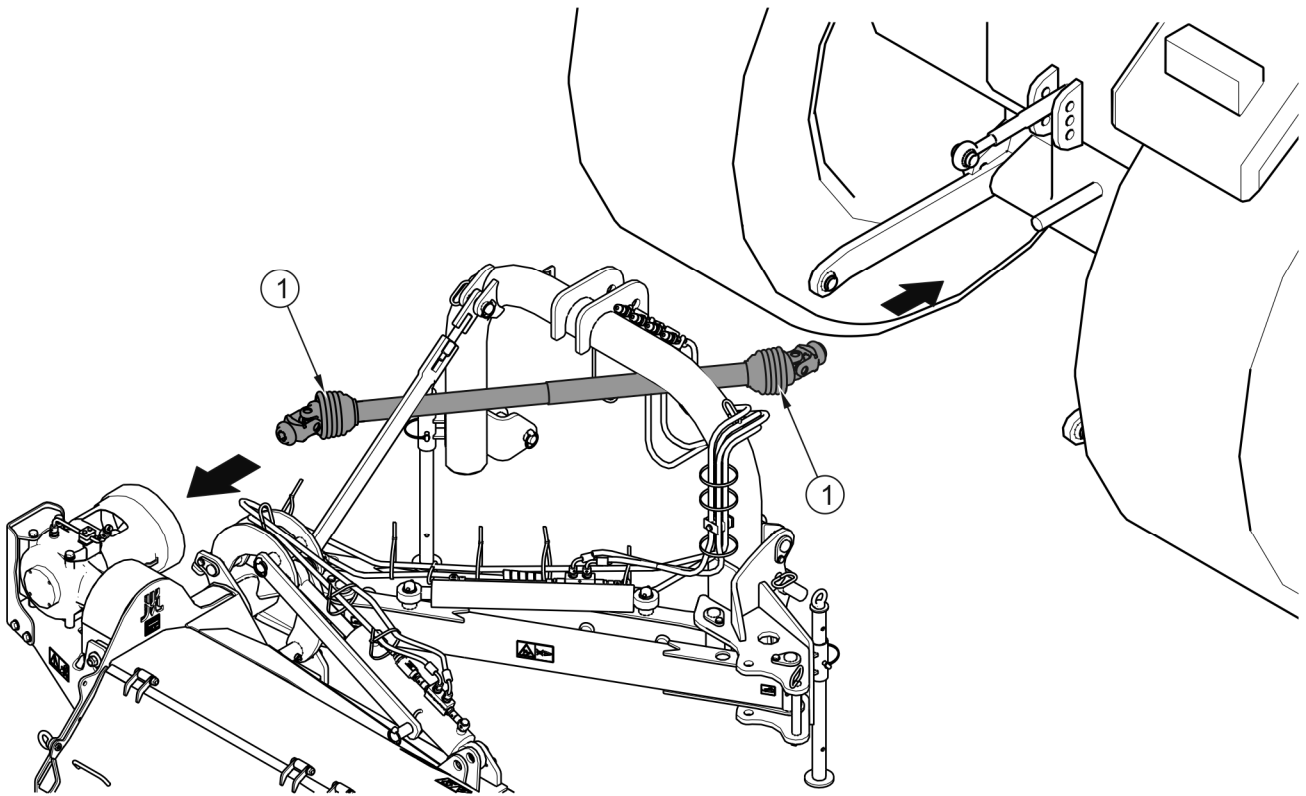

FIGURE 4.7 **FIGURE 4.7** **Connecting the PTO shaft**
Before connecting the mower it is absolutely necessary to carefully read the Operator Manual attached by the Manufacturer of the shaft and observe the instructions contained in it. Before connection to the tractor check the technical condition of the shaft guards (1) (FIGURE 4.7), the completeness and condition of the protecting chains and the general technical condition of the shaft.